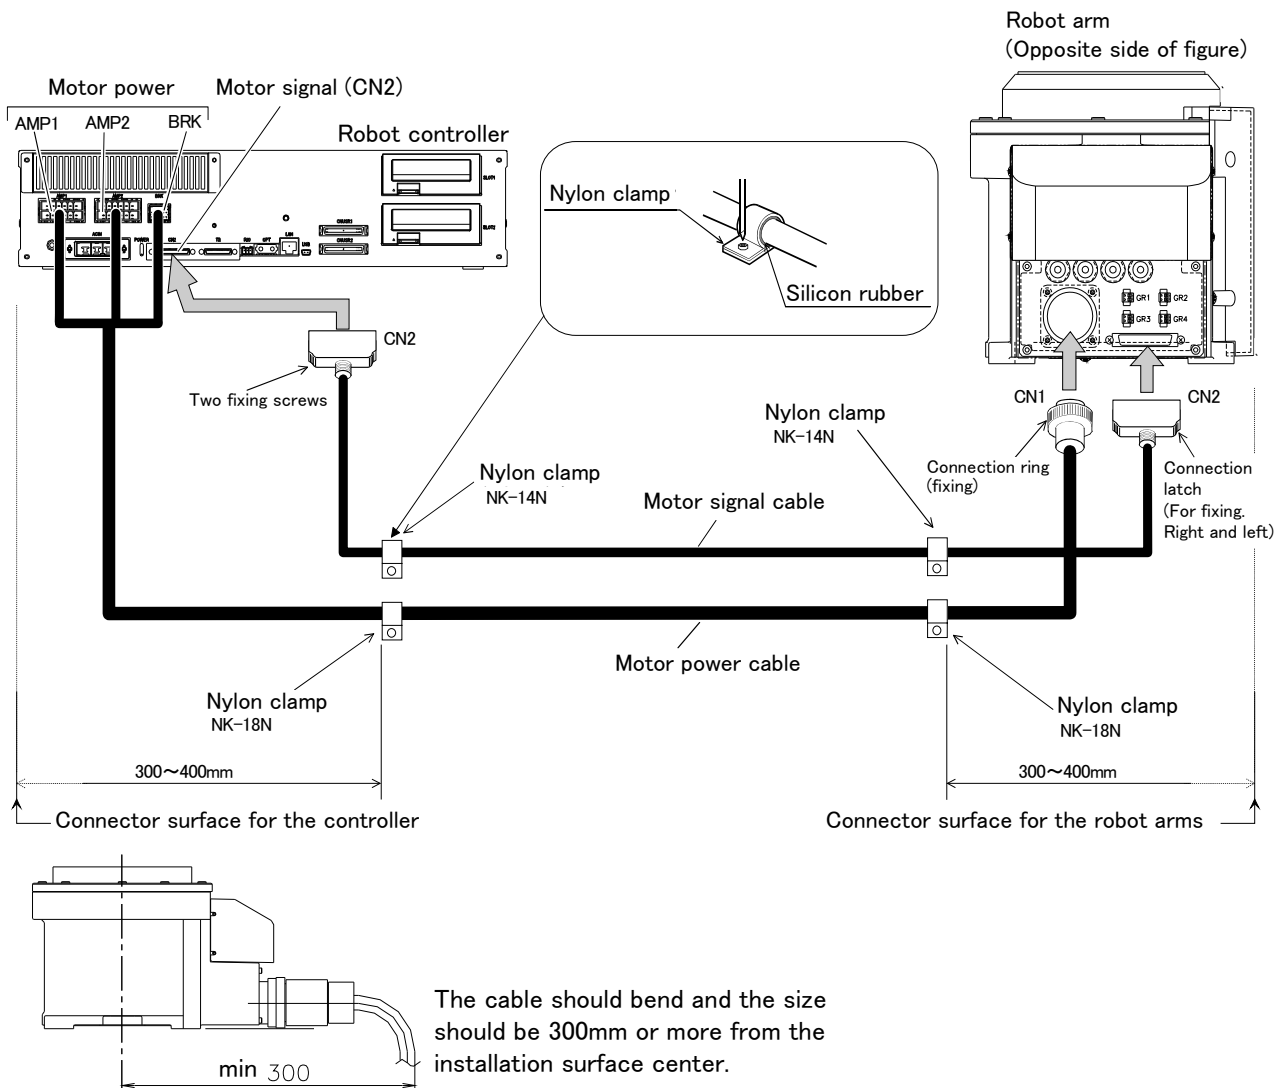

Fig.2-13 : Fixing the flexible cable (CR751)
- (1) Connect the connector to the robot arm.
- (2) Wind the silicon rubber around the cable at a position 300 to 400 mm from the side of robot arm and controller as shown in Fig. 2-11 (CR750), Fig. 2-12 (CR750 CE marking specification) or Fig. 2-13 (CR751), and fix with the nylon clamp to protect the cable from external stress.